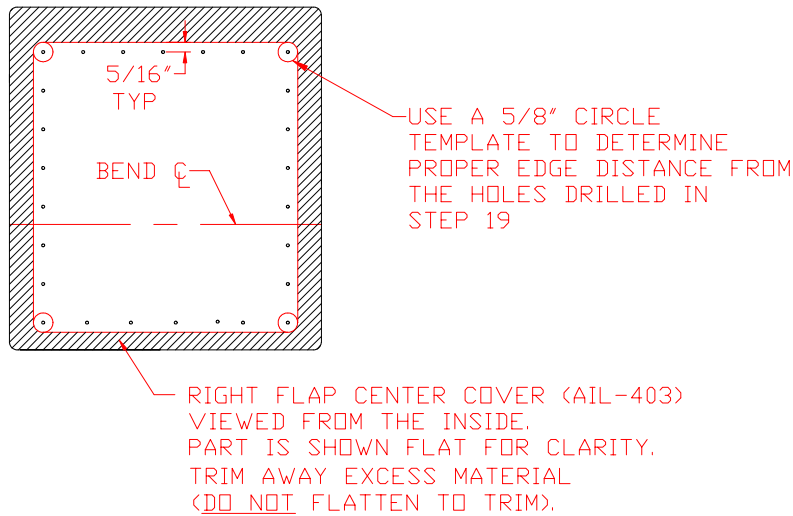

Figure 6.3.2
2) Remove the center hinge cover and trim. See figure 6.3.2.